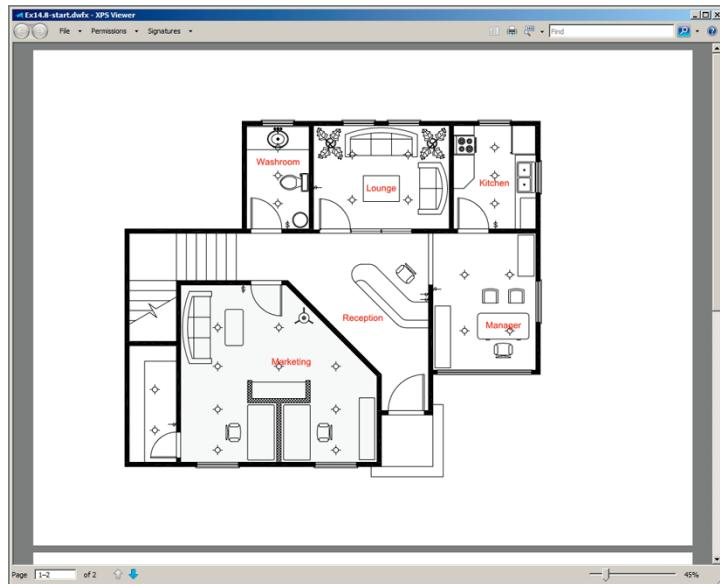

FIGURE 14.24 DWFX drawing displayed in Internet Explorer
3. Double-click the Ex14.8-start.dwfx file on your hard drive. After a few moments, the vector drawing appears in the XPS Viewer, a program that is part of the Windows operating system. Drag the slider to the left at the bottom of the interface to zoom out (see Figure 14.24).